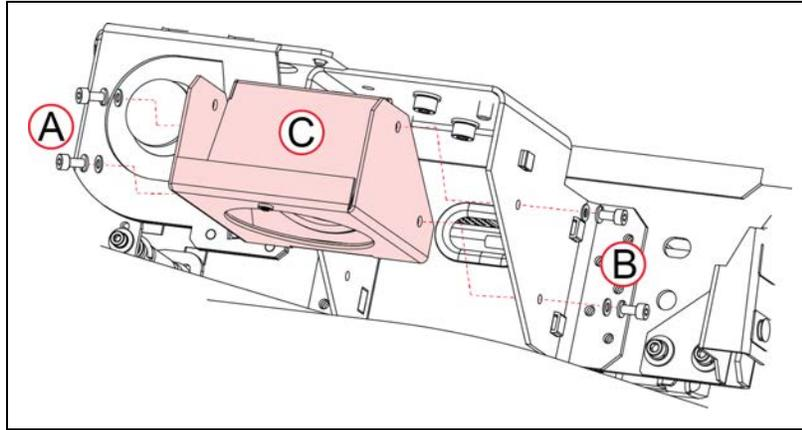

Figure 9-12 Removing the LD-250 Speaker Assembly.
6. Use a 4 mm hex driver to remove the two pairs of M5 screws and washers [(A) and (B) in Figure 9-12] that retain the loudspeaker assembly to its mount.
Carefully pull out the speaker assembly [(C) in Figure 9-12] until you can reach and disconnect both speaker wires.
- M5 screws and washers [(A) and (B) in Figure 9-12].